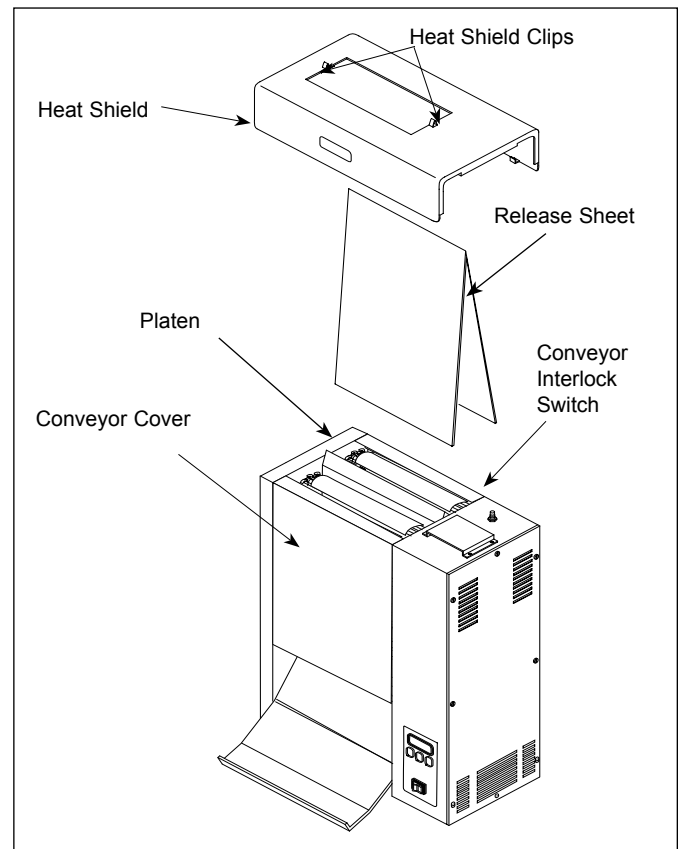

Figure 12. Installing Release Sheet
by draping it over both sides of the platen with the crease centered directly over the platen (Figure 12).
4. Install the Release Sheet by draping it over both sides of the Platen surface. The crease should be centered directly on top of the platen (Figure 12).
6. The Heat Shield clips fit over the top of the Platen securing the Release Sheet (Figure 12).